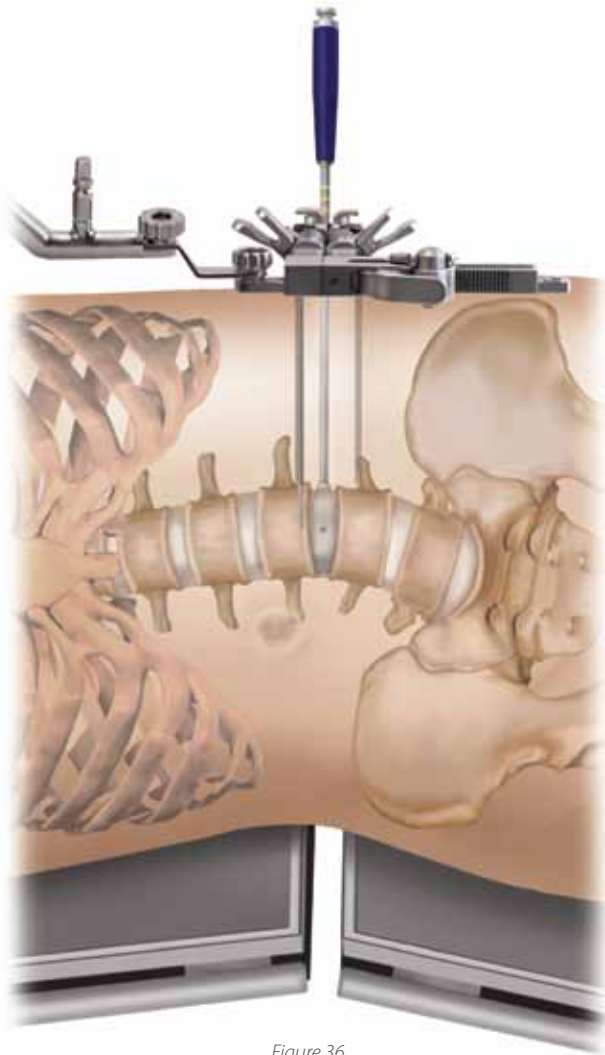

Figure 36
Step 2 The Trial is passed through the Retractor and impacted into the disc space. A properly sized Trial should be centered with the spinous process and span the ring apophysis in order to reach fully across the vertebral body end plate (Figure 36 and 37).